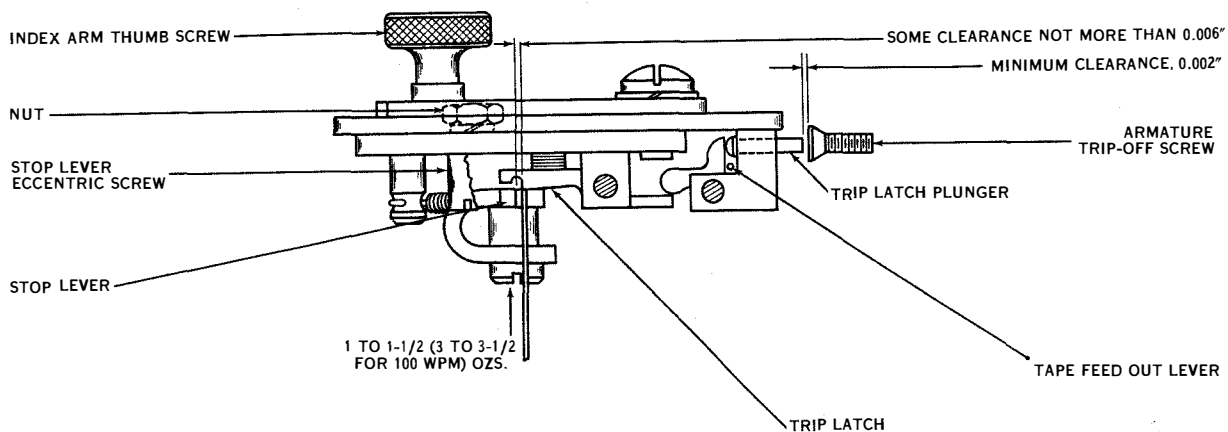

Figure 7-34. Stop Lever Eccentric, Trip Latch Spring Compression, and Trip-off Screw
(21) STOP LEVER ECCENTRIC SCREW. (See figure 7-34.)—The stop lever on the rangefinder assembly should overtravel the latching face of the trip latch some, but not more than 0.006 inch. To adjust, loosen
(22) TRIP LATCH SPRING COMPRESSION. (See figure 7-34.)—A tension of 1 to 1½ ounces (3 to 3½ ounces for 100-wpm spring) should be required to start the trip latch moving. To check, hold the range-finder assembly in a horizontal position and place the push end of an eight-ounce scale on the trip latch at a point as near the stop lever as possible. Hold the scale in a vertical position and push upward, noting the tension as the trip latch starts to move.
To check, hold the trip latch plunger in its operated position (see figure 7-34) and hook an eight-ounce scale on the end of the stop lever and pull horizontally at a right angle to the stop lever. Note the tension as the stop lever starts to move.
(b) The trip latch plunger should have at least 0.002-inch end play (see figure 7-34). To check, hold the armature in its operated position and rotate the selector cam sleeve so that the stop lever is against its eccentric stud.